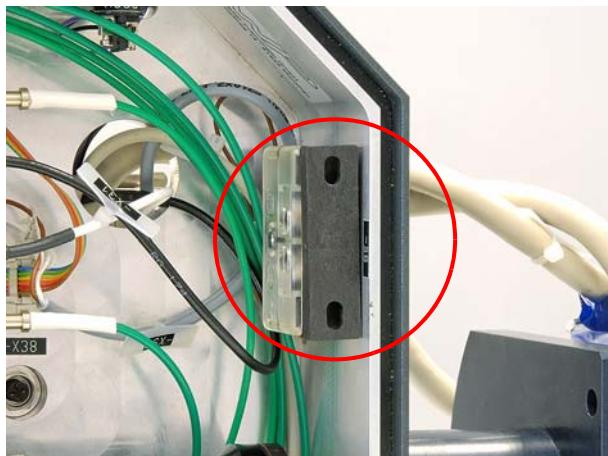

Figure 7.116 Interlock switch bridged
1. Bridge the interlock switch (Figure 7.116).